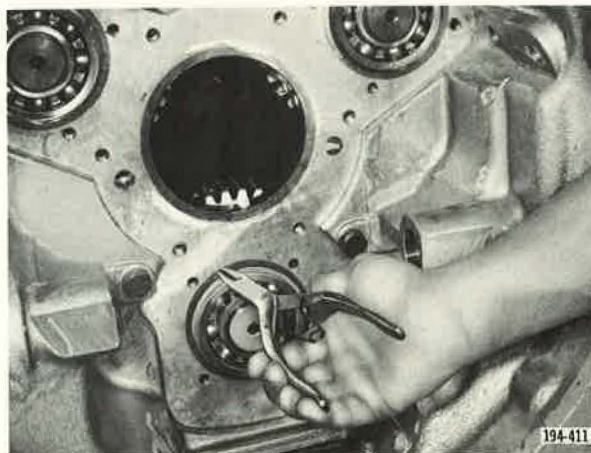

Figure 16. Removing Countershaft Front Bearing Positioning Snap Ring
8. Remove countershaft front ball bearing positioning snap ring. See Figure 16.